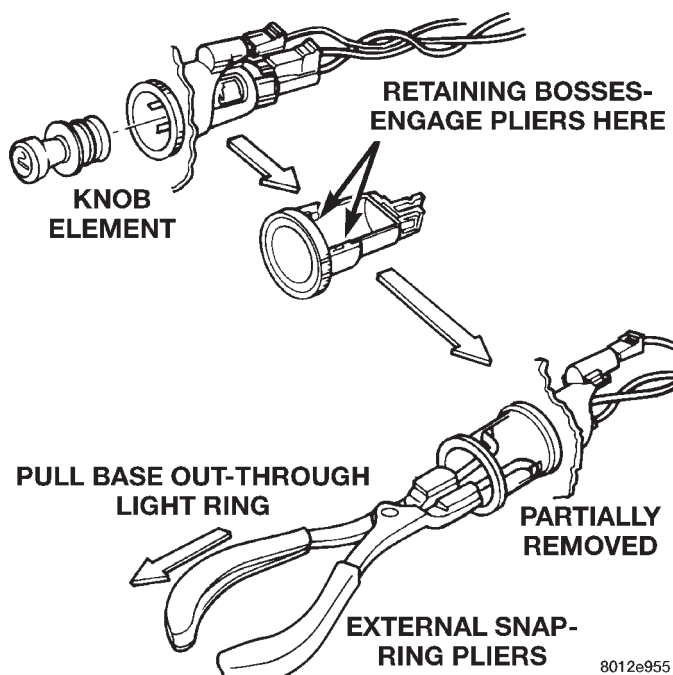

Fig. 15 Cigar Lighter Remove/Install
- (1) Disconnect and isolate the battery negative cable.
- (2) Pull the cigar lighter knob and element out of the cigar lighter base.
- (3) Look inside the cigar lighter base and note the position of the retaining bosses that secure the unit to the light ring/retainer in the instrument panel center bezel (Fig. 15).